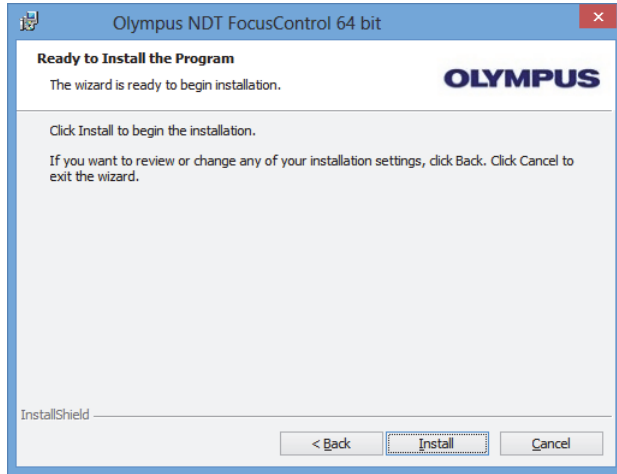

Figure 1-7 The Ready to Install page
5. On the **Ready to Install the Program** page, click **Install** (see Figure 1-7 on page 21).